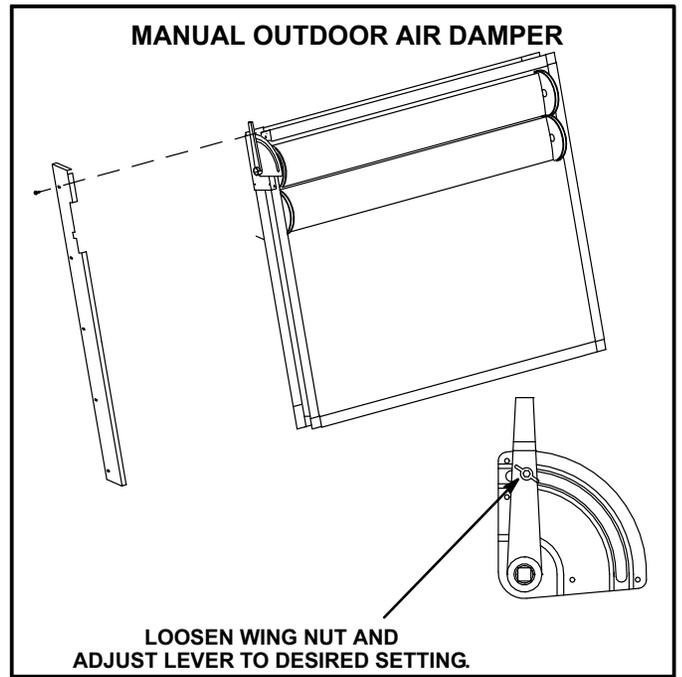

FIGURE 28
T1DAMP20C-1 used on TGA units consists of a set of dampers which may be manually or motor (M) operated to allow outside air into the system (see figure 30). Either air damper can be installed in TGA units. The motorized damper assembly opens to minimum position during the occupied time period and remains closed during the unoccupied period. Manual damper assembly is set at installation and remains in that position. See figure 28. Washable filter supplied with the outdoor air dampers can be cleaned with water and a mild detergent. It should be sprayed with Filter Handicoater when dry prior to reinstallation. Filter Handicoater is R.P. Products coating no. 418.